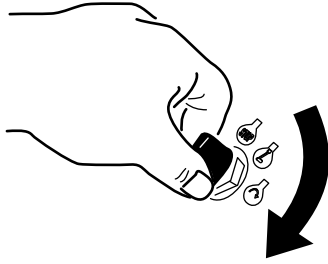

Figure 13
1. Turn the ignition key to the START position (Figure 13).
To move the machine forward, squeeze the traction control toward the hand grip (Figure 13).
To move the machine rearward, push the thumb pad down to move the traction control away from the hand grip (Figure 13).